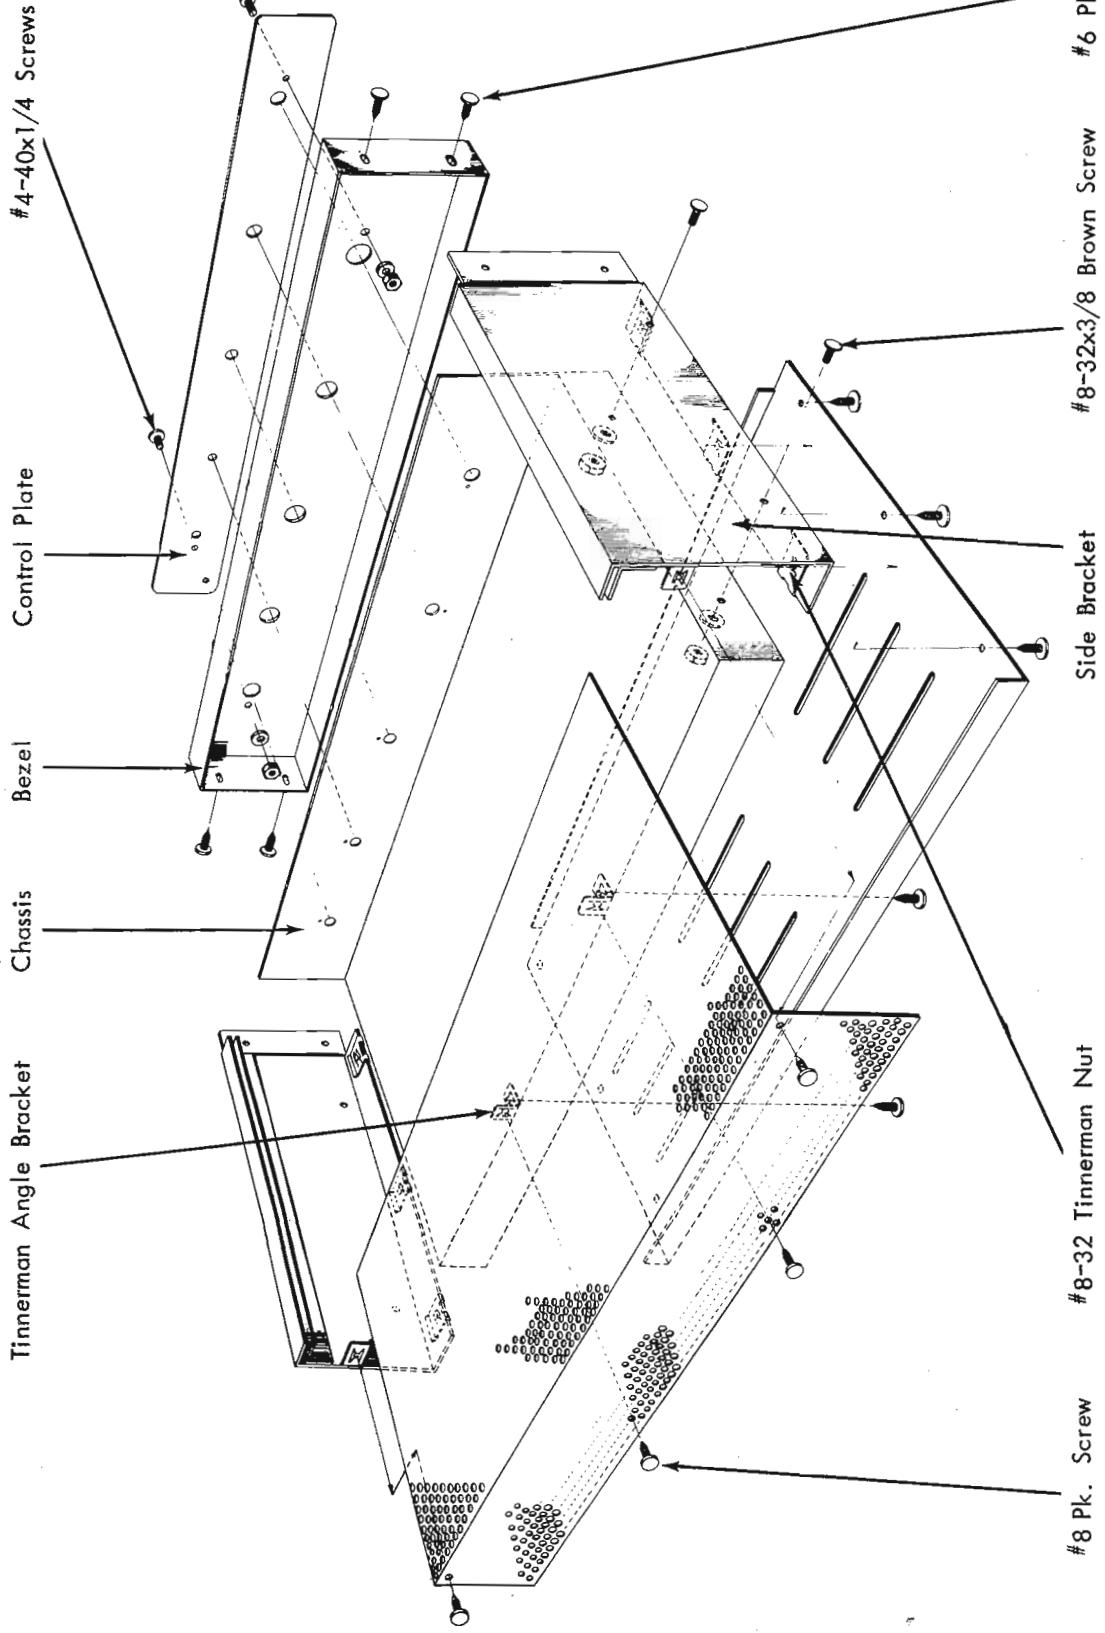

Fig. 12
4. ( ) Fig. 12. Assemble the left and right side pieces to the chassis. Each side piece is mounted with two #8-32 x 3/8 brown colored screws, two #8-32 hex nuts, and two #8 lockwashers.
5. ( ) Fig. 12. On the rear edge of the chassis surface, mount the two tinnerman speed nut angle brackets, using a #8 P.K. - Type Z screw for each.
6. ( ) Fig. 12. On the bottom flange of each side piece, press a tinnerman #8-32 - Type J speed nut in place over each of the three holes. The shorter length of the nuts face up towards you.
7. ( ) Fig. 12. Mount the bottom plate on the bottom flanges of the side pieces, using six #8-32 x 3/8 uncolored screws. Note that the rear flange on the bottom plate fits over the outside of the rear chassis apron.
8. ( ) Fig. 12. Install the rubber feet in the openings provided in the bottom plate. The method is to work the rounded portion of each foot into the interior
9. ( ) Fig. 12. Insert the perforated cover into the "rails" on the side pieces and slide it forward fully.
10. ( ) Fig. 12. Mount the control plate on the bezel (locating the hole for the plastic pilot jewel, above and between the focus and bass controls, over the corresponding hole in the bezel), using two each #4-40 x 1/4 brass screws, #4 lockwashers and #4 hex nuts to fasten it to the bezel. Press the plastic pilot jewel into place on the control plate.
11. ( ) Fig. 12. Fit the bezel and control plate over the projecting control and slide switch shafts, onto the ends of the side pieces and the perforated cover. Assemble the bezel to the side pieces with four #6 x 1/4 brown colored P.K. screws. Before tightening the screws finally, be sure there is adequate play to slide the perforated cover out.
12. ( ) Fig. 12. Fasten the perforated cover to the two tinnerman angle brackets (previously mounted on the rear edge of the chassis surface) and the two angle brackets on the side brackets using four #8 P.K. Type Z screws.
13. ( ) Fig. 12. Set all controls to the furthest counter-clockwise position. Mount the knobs on the shafts with the indicating dots pointing as follows: INPUT SELECTOR knob at AUX; a FUNCTION SELECTOR at STEREO; FOCUS at -5; LEVEL at 0; BASS knobs at -5; TREBLE knobs at -5.